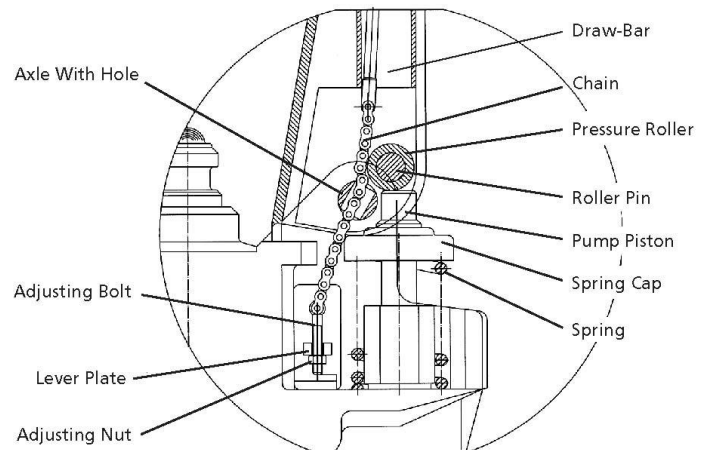
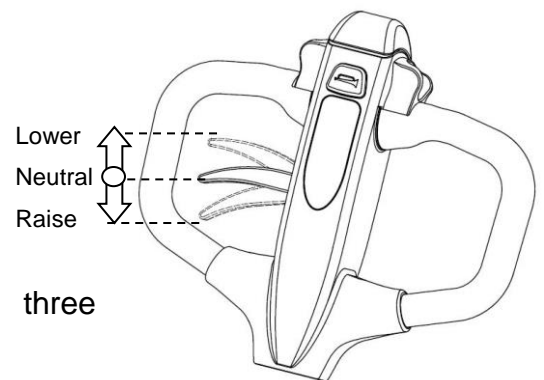

Fig. 7: Side view
Fig. 8: SPT 15 tiller
- b) Set the control lever of the handle to the 'Lower' position, then pass the adjusting nut, adjusting bolt through the hole of the axle with your hand (fig. 7).
- d) Set the control lever (fig. 8) of the handle to 'RAISE' position, then raise the lever plate and insert the adjusting bolt into the front slot of lever plate. Note: Keep the adjusting nut under the lever plate. (fig. 7)
The SPT 15 multifunction tiller can be regulated in three positions (fig. 8):
If necessary, you can adjust the lever according to following steps (fig. 7):